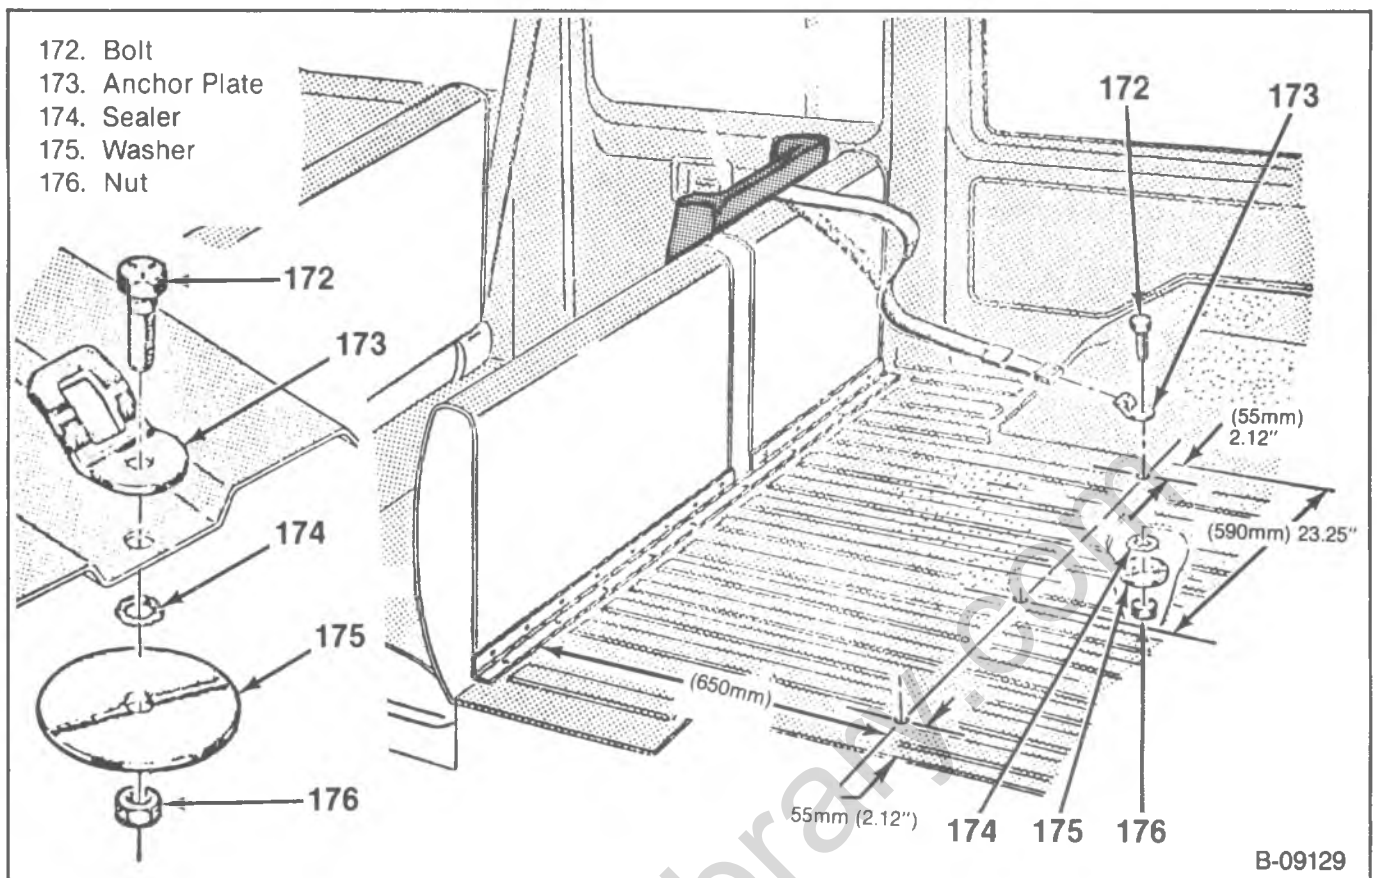

Figure 30—Suburban Second Seat Top Strap Belt Components
1. Determine the location for the anchor by measuring 650 mm (25½-inches) rearward from the rear edge of the kick-up molding (figure 30). Next: